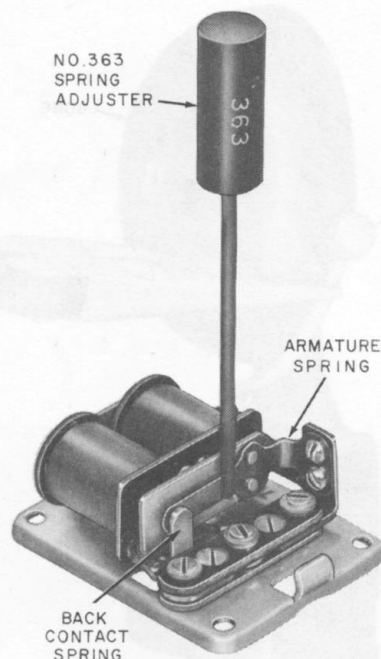

Fig. 18—Adjusting Armature Spring
4.10 The contact separation of buzzer and bell operated on direct current is approximately 0.005 inch when armature is held manually against pole face. Adjust as required by applying a No. 363 spring adjuster close to base of the spring as shown in Fig. 18. Give adjuster a slight twist in direction desired. Take care not to kink spring.
(d) After adjusting, see that armature tension spring rests against armature tension spring stop when armature is in unoperated position (Fig. 18).